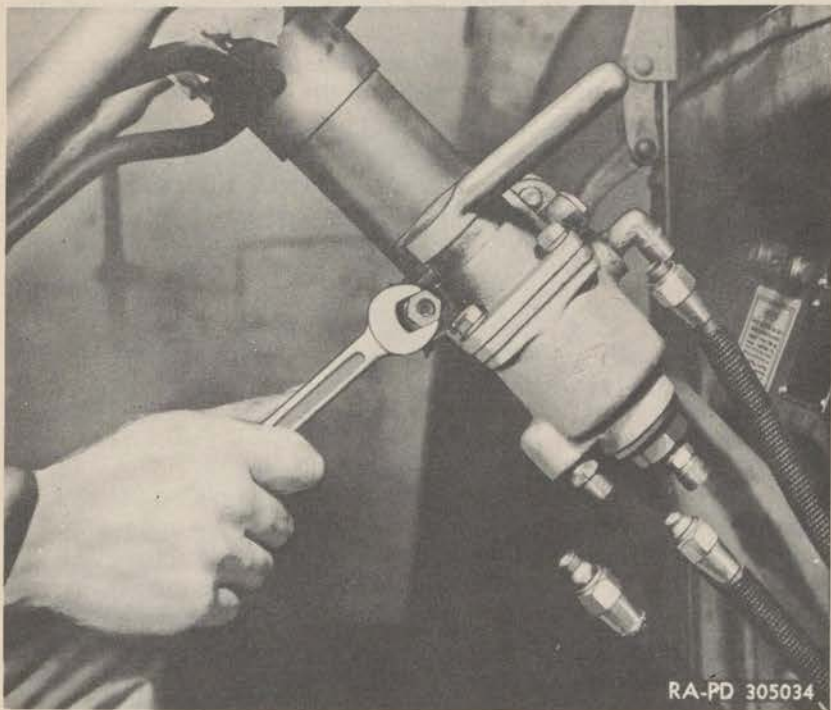

Figure 128—Removing Hand Brake Valve From Steering Post
(3) **REMOVE HAND BRAKE VALVE.** Remove the cap screws and nuts clamping the brake valve to the steering post and remove the brake valve mounting cap and brake valve assembly (fig. 128).